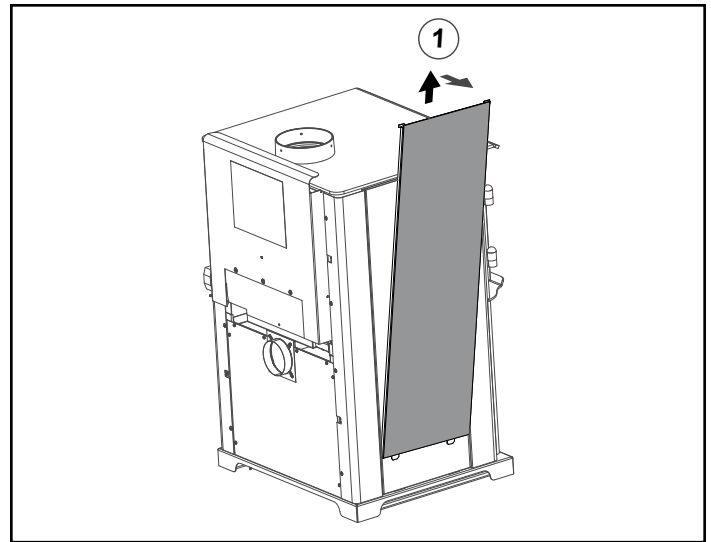

Figure 17.4
- Remove solid panel from side by lifting up and pulling away from appliance (use a flat tool to pry from bottom if needed) (**Figure 17.4**).
- Remove tile frame from side by lifting up and pulling away from appliance (**Figure 17.4** reference solid side panel removal).